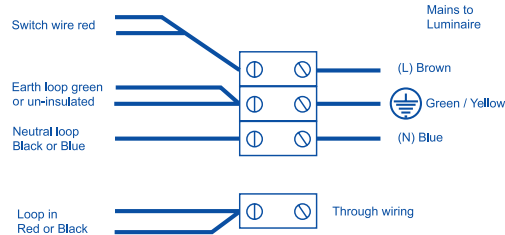

Fig. 1
5. The “looping-in” of the fixed wiring supply should be maintained. (See Fig.1)